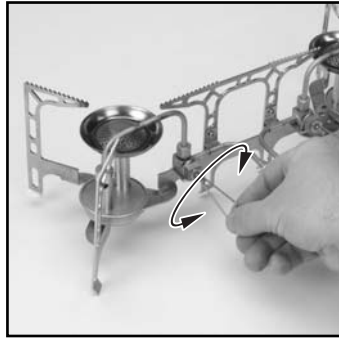

FIG. 30
- Turn the second flame adjuster back and forth several times to clean generator tip (Fig. 30).
- After 60 seconds, pump an additional 40 strokes. Flame may be adjusted to desired heat with **FLAME ADJUSTER.** Turn flame adjuster back and forth several times to clean generator tip (Fig. 30).